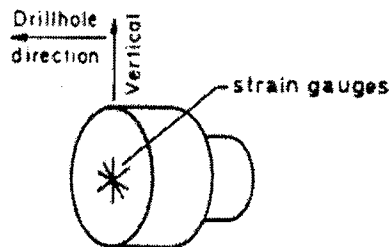

Figure 1 : the door stopper
- v. Figure 1 is one of the instrument used for the determination of ground stresses in rock. What method is this instrument being used for?